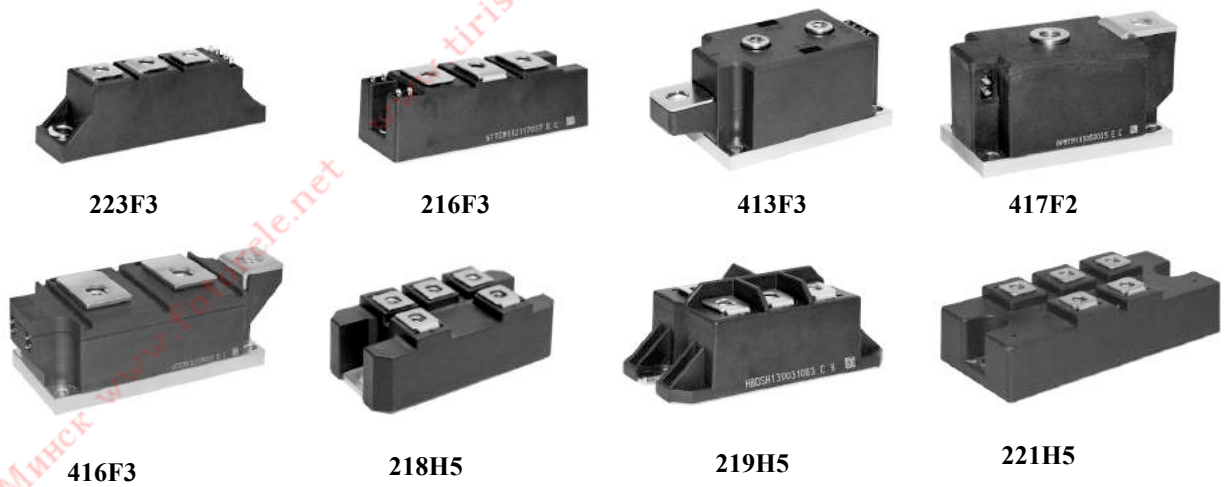

Fig.2 Different housings of Techsem modules
Depending on packaging size of the modules, 8 different housings are available. Please refer to Fig. 2.
- **4**: Housing type, please refer to Fig. 2
- **5**: Option, with "B" means the sequence of the gate terminal (G) and auxiliary cathode terminal (K) is in order of G1/K1, K2/G2.